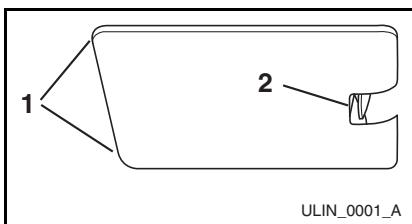

Figure 23
1. Grasp the edges of the light housing lens (**Figure 23, 1**) opposite the exposed tab and gently push the lens toward the tab (**Figure 23, 2**).
2. Pull the edge of the lens down (**Figure 23, 1**) and swing it out of the light housing.